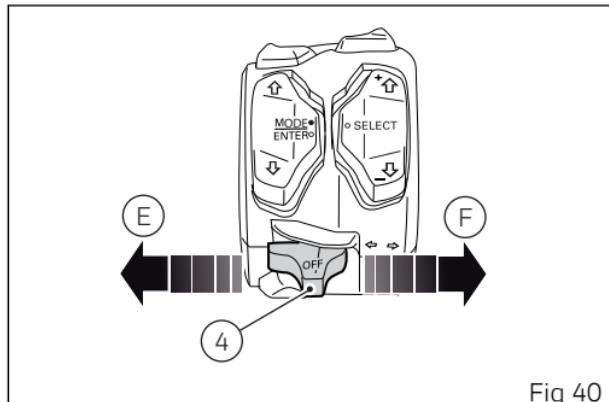

Fig 40
When turning the key to off, the display shows the page where to switch on the parking lights: to turn on the parking lights, keep pressed button (4, Fig 40) in position (E).